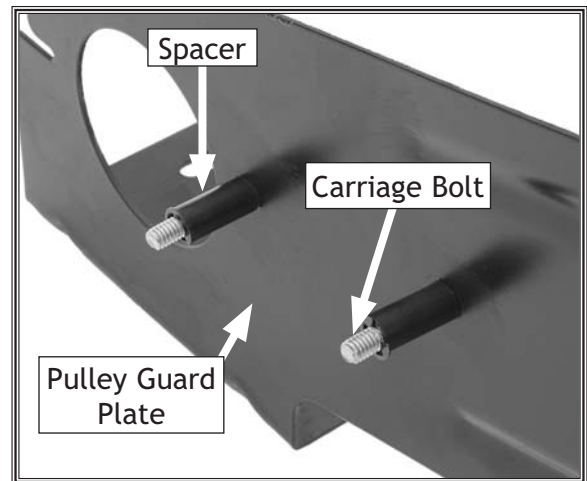

Figure 17. Pulley guard assembly.
1. Insert the 5/16-18 x 1-3/4" carriage bolts through the holes in the pulley guard plate (**Figure 17**), and place a spacer and an E-clip over each carriage bolt.